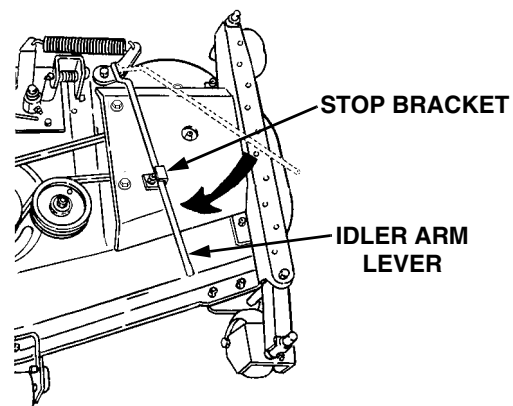

Figure 38
17. While holding the belt in position, rotate the deck idler arm lever into its stop bracket to tension the PTO belt (Refer to Figure 38). Make certain the PTO belt is properly positioned in the PTO clutch pulley and both lower front pulleys. Reposition if necessary.